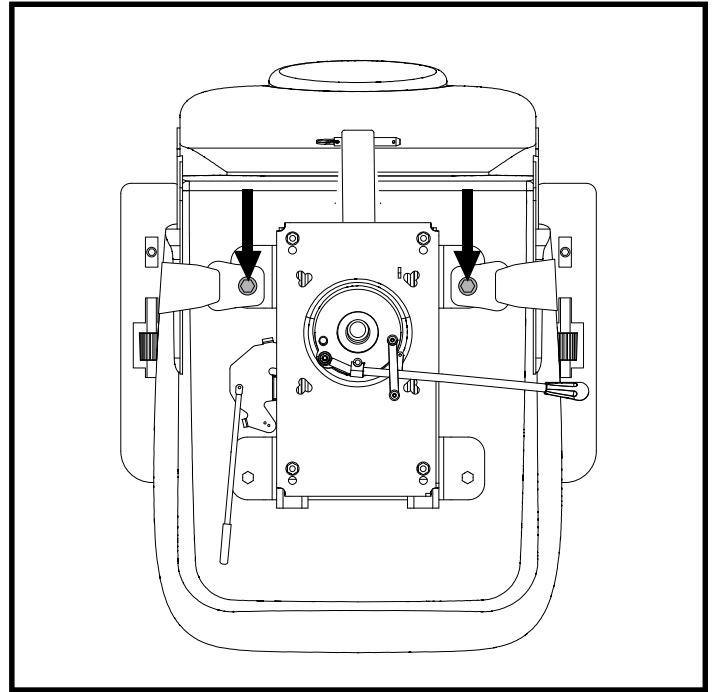

Figure 21. Positioning Belt Bolts
2. Place the seat upside down so that you can see the bottom of the seat base. See figure 21.